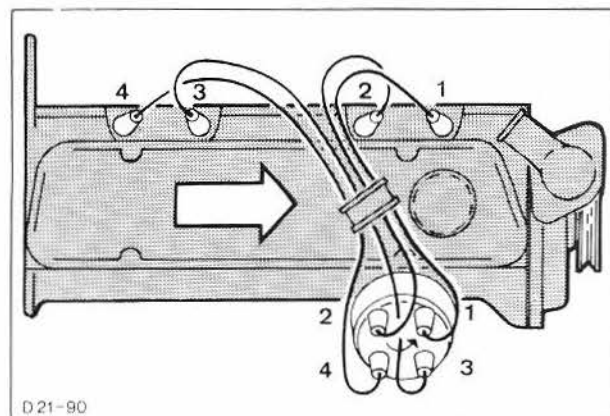

Fig. 87. Plug leads (Firing order).
2. Disconnect HT leads from spark plugs, Fig. 87, and remove rocker cover.